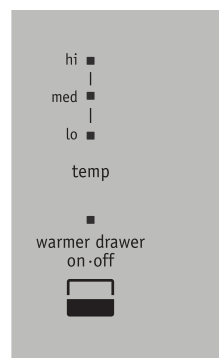

Figure 35: Warmer drawer control
1. Press the warmer drawer key (Figure 35). The warmer drawer indicator light will turn on.